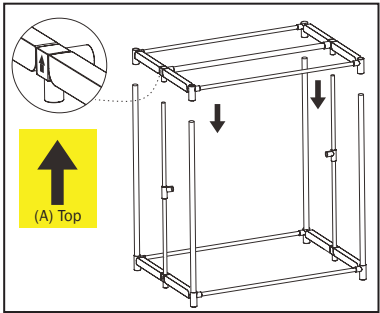

Fig. 3
4. Attach the (A) top module to the six poles that you've just attached to the middle module, with the arrows facing upwards (Fig. 3).